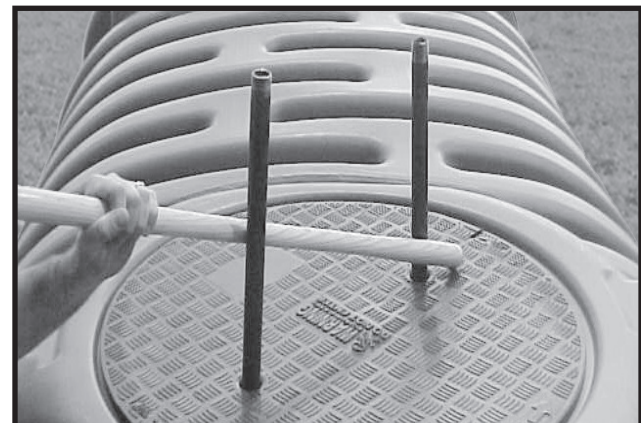

FIG.7 Remove Cover
STEP 7 If unable to remove cover by hand, insert 1" OD steel pipe into cover indentations and twist using a shovel handle, pipe or piece of wood. (Fig.7)